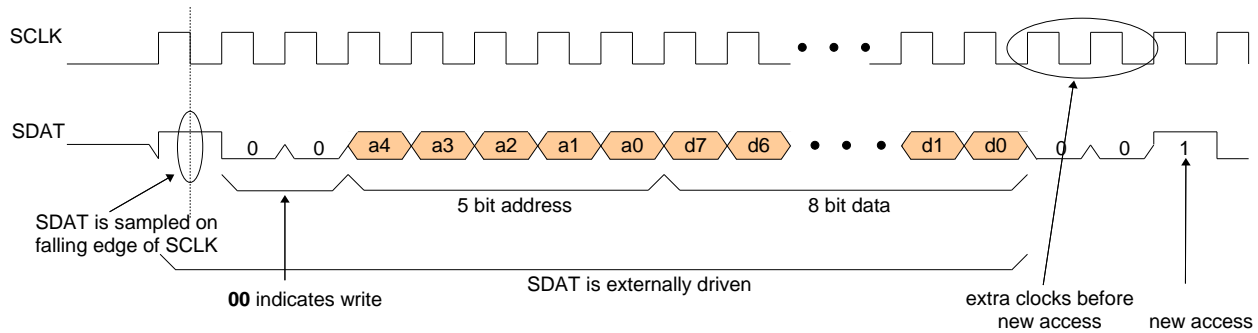
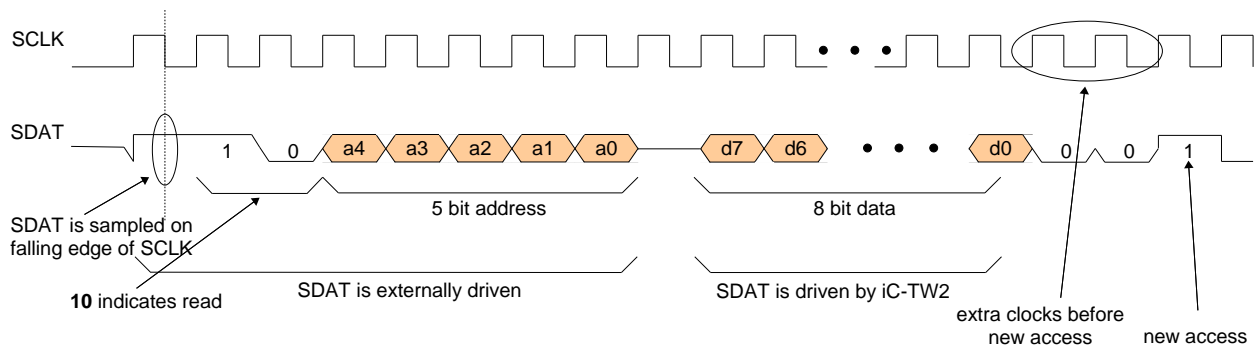

Figure 13: Register bank write access on 2W-Interface
Figure 14: Register bank read access on 2-wire interface
Control register access is shown in Figure 13 (write) and Figure 14 (read) respectively. If SDAT is **00** after the start bit a write access is requested. The data word d(7:0) will be written into register a(4:0). Please note that a(4) is always 0 since the iC-TW2 only has 16 addressable registers.